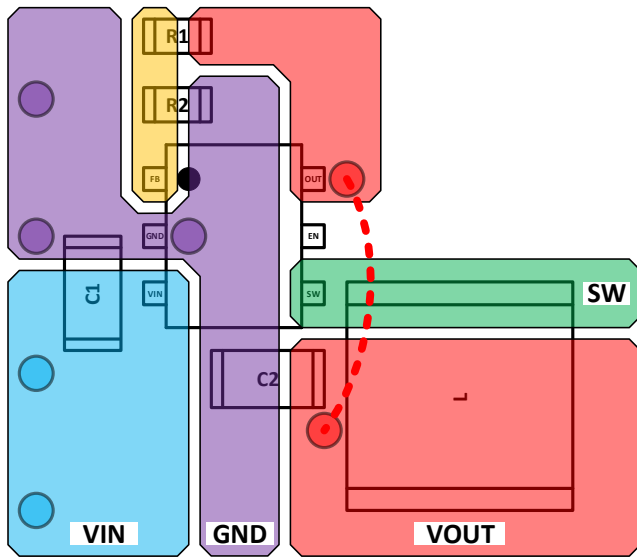

Figure 42. Recommended AP61300Q PCB Layout
9. See Figure 42 and Figure 43 for more details.